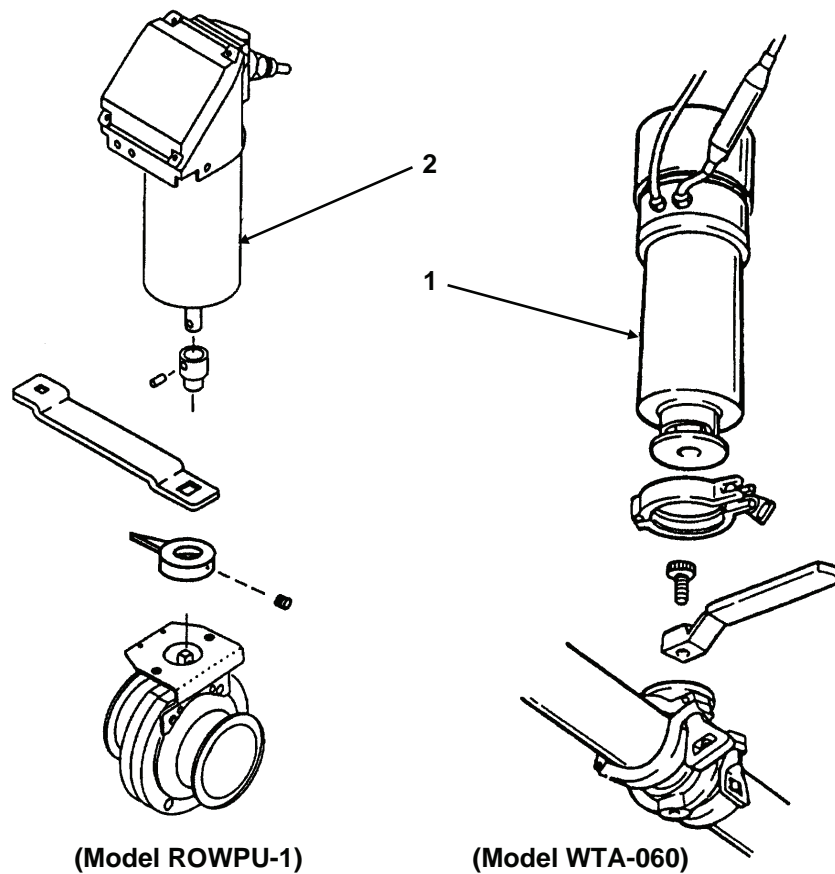

Figure 10. Automatic Valves
Automatic Valves (Figure 10). Throughout the ROWPU system, a series of automatic valves are used to direct the water as it passes through the ROWPU piping. The type of automatic valves (1) used by the WTA-060 model looks slightly different than the automatic valves (2) used on the ROWPU-1 model. Although the appearance of the valves is different, the valve function is identical. The repair procedures differ slightly and are indicated in the related paragraphs for the maintenance of these valves.